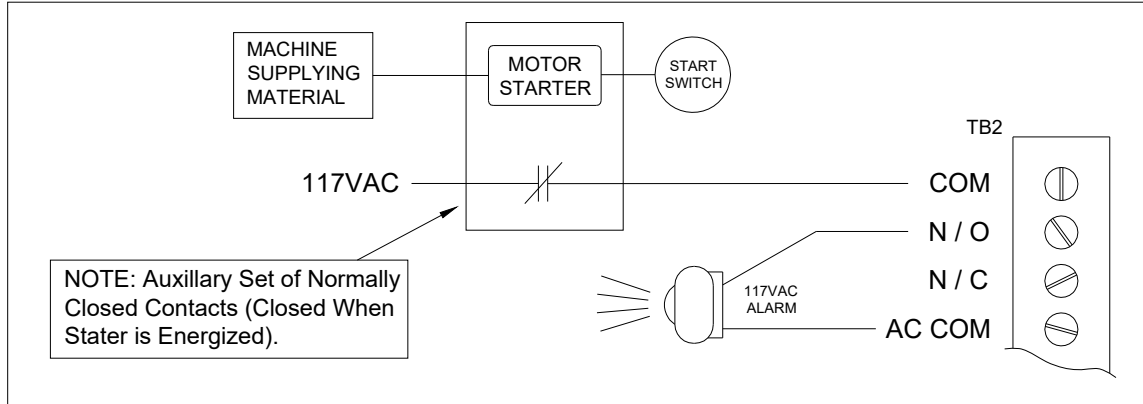

Figure 11
**DECREASE FLOW INDICATION (Fig. 11)**